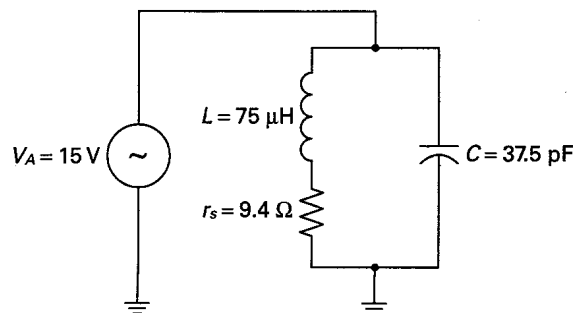

Fig. 1-26
- 1.44** Refer to Fig. 1-26. Calculate the following: (a)  $f_0$ , (b)  $X_L$  and  $X_C$  at  $f_0$ , (c)  $I_L$  and  $I_C$  at  $f_0$ , (d)  $Q$ , (e)  $Z_{\text{tank}}$ , (f)  $I_T$ , (g) BW, (h)  $f_1$  and  $f_2$  respectively.
- 1.45** In Fig. 1-26, suppose that  $C$  is increased to 75 pF. Calculate: (a)  $f_0$ , (b)  $X_L$  and  $X_C$  at  $f_0$ , (c)  $I_L$  and  $I_C$  at  $f_0$ , (d)  $Q$ , (e)  $Z_{\text{tank}}$ , (f)  $I_T$ , (g) BW.
- 1.46** Refer to Fig. 1-26. Assume that a 50 k $\Omega$  load is placed in parallel with the tank. Calculate the following ( $C = 37.5$  pF): (a)  $Q_{\text{ckt}}$ , (b) BW, (c)  $I_T$ .